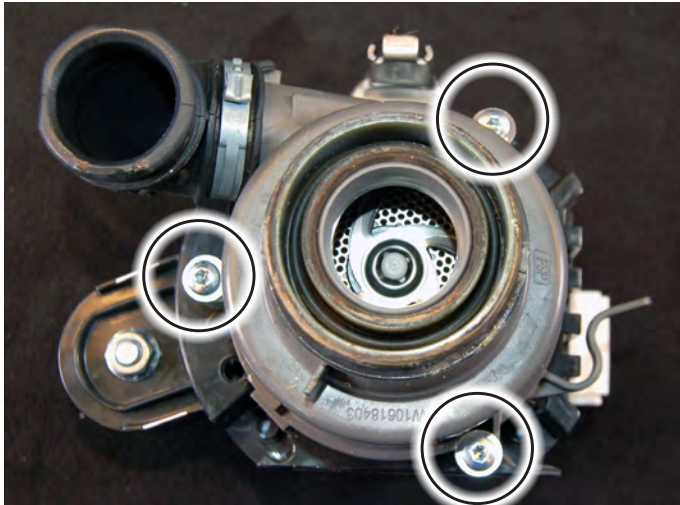

Figure 4
6. Remove Pump Housing - Remove the three (3) screws securing the pump housing to the motor assembly (see Figure 4).